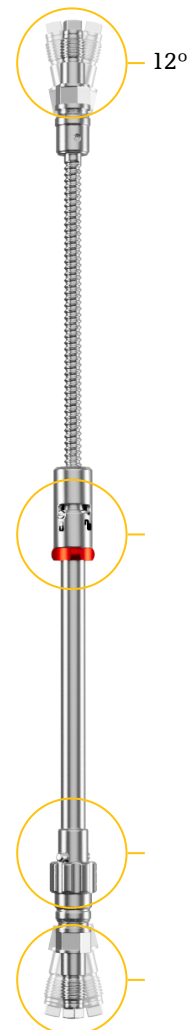

Figure 76
- A built-in dynamization feature allows up to 5mm of controlled dynamization. (**Figure 76**)